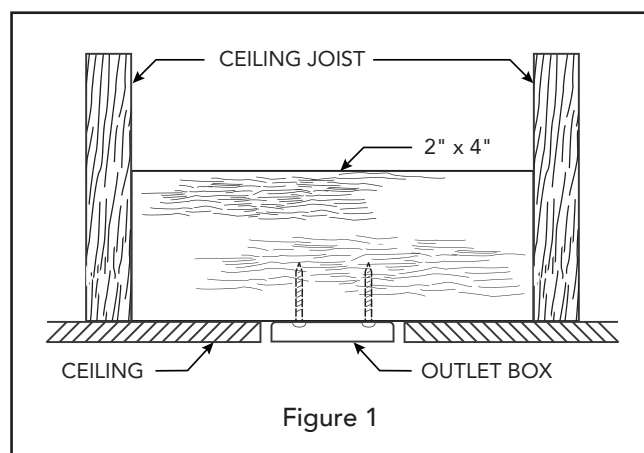
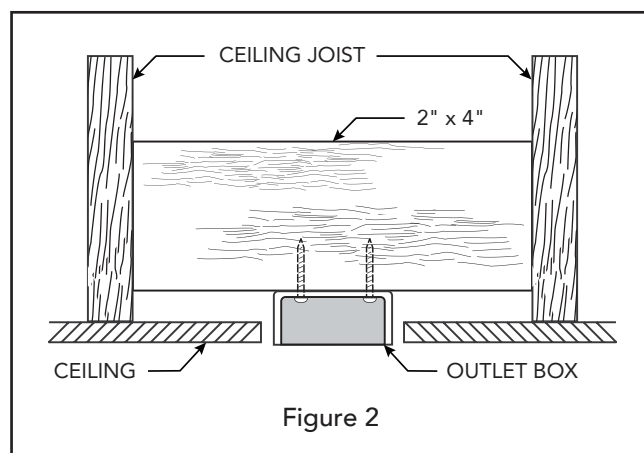
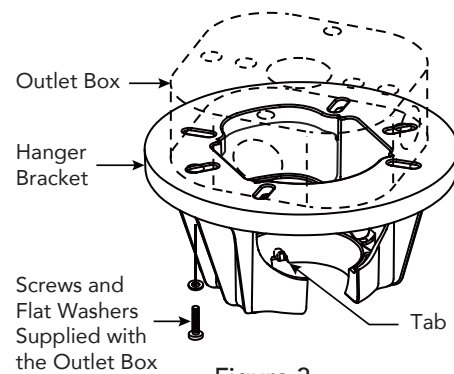
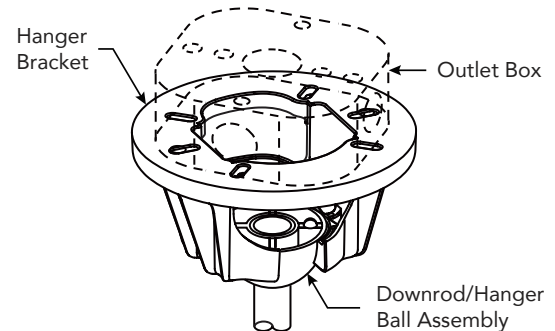

Figure 1
Figure 2
Figure 3
Figure 4
Your new ceiling fan will require a grounded electrical supply line of 120 volts AC, 60 HZ, 15 Amp Circuit. Electrical code requires use of a fan-rated outlet box to support the extra weight and motion associated with a ceiling fan. A fan-rated outlet box will be labeled as such and typically supports up to a 70lb ceiling fan. Fan-Rated Outlet Boxes vary in ratings and design. Ensure the ratings of your ceiling fan outlet box meet the requirements for the ceiling fan being installed. Figure 1, Figure 2 and Figure 3 depicts different structural configurations that may be used for mounting the outlet box.
### Low profile outlet box (Figure 1)
### Deep outlet box (Figure 2)
### Deep outlet box with brace (Figure 3)
3. Loosen the two set screws and locking nuts in the downrod support of the motor assembly. Route the black and white wires through the downrod. (Figure 3)
4. Slide downrod into the downrod support on top of the motor. Install the clevis pin by aligning the holes in the downrod support with holes in the downrod. Secure clevis pin with hairpin clip. Tighten the two set screws with nuts in the downrod support. Securely tighten the set screws with screwdriver then fully tighten the nuts by hex wrench. (Figure 4)
1. Securely attach the hanger bracket to the outlet box using the outlet box screws and washers supplied with the outlet box. (Figure 3)
**NOTE:** Outlet box screws pass through slotted holes of the hanger bracket. (Figure 3)
3. Carefully lift the fan and seat the downrod/hanger ball assembly onto the hanger bracket that was just attached to the outlet box. (Figure 4) Be sure the groove in the ball is lined up with tab on the hanger bracket. (Figure 3)
3. Check the operation of the fan by gently pulling on the fan pull chain. (Figure 3)
4. If airflow is desired in the opposite direction, turn the fan off and wait for the blades to stop turning. Then slide the reverse switch to the opposite position and turn fan on again. (Figure 4)